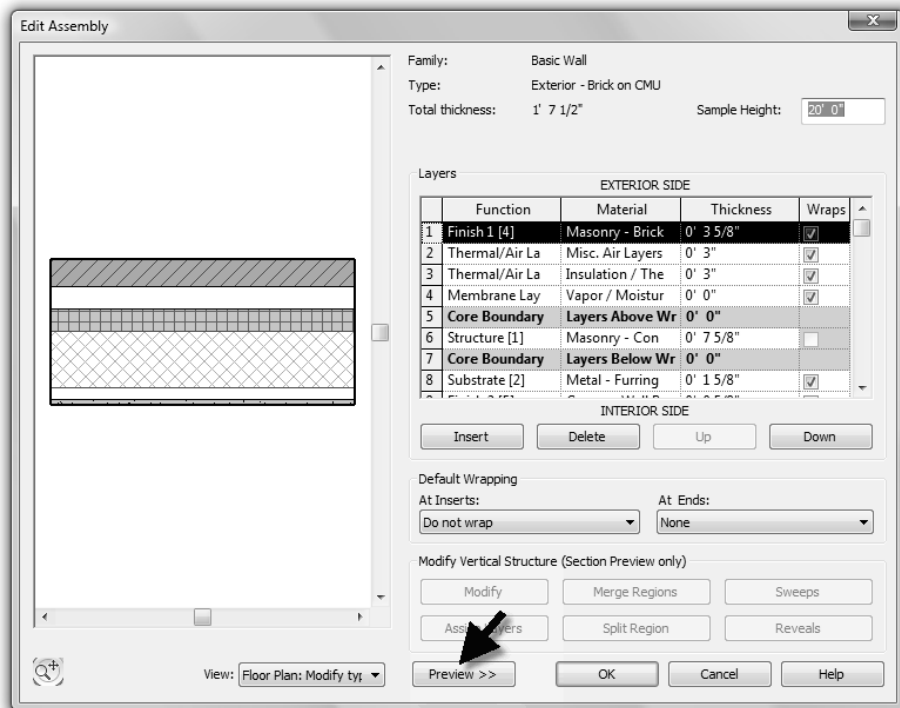

Figure 3-2.5 Edit Structure
8. Finally, you are in the *Edit Assembly* dialog box. This is where you can modify existing wall types or create new ones. Click **<<Preview** to display a preview of the selected wall type. (Figure 3-2.5)
Things to notice (Figure 3-2.5):